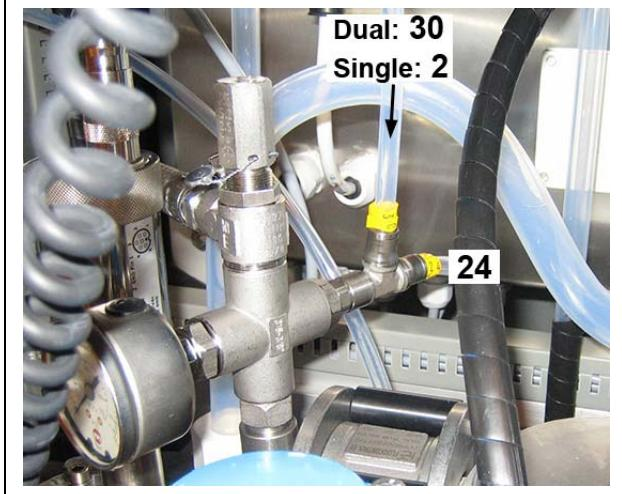

Figure 1. Water inlet, here installed to a Dual Chamber model.
- Dual Chamber model: add a water inlet to the sweep module safety valve, parallel with the air inlet (30). See Fig. 1 & 2.
- Single Chamber model: add a water inlet to the washing chamber safety valve, parallel with the air inlet (2). See Fig. 1 & 3.